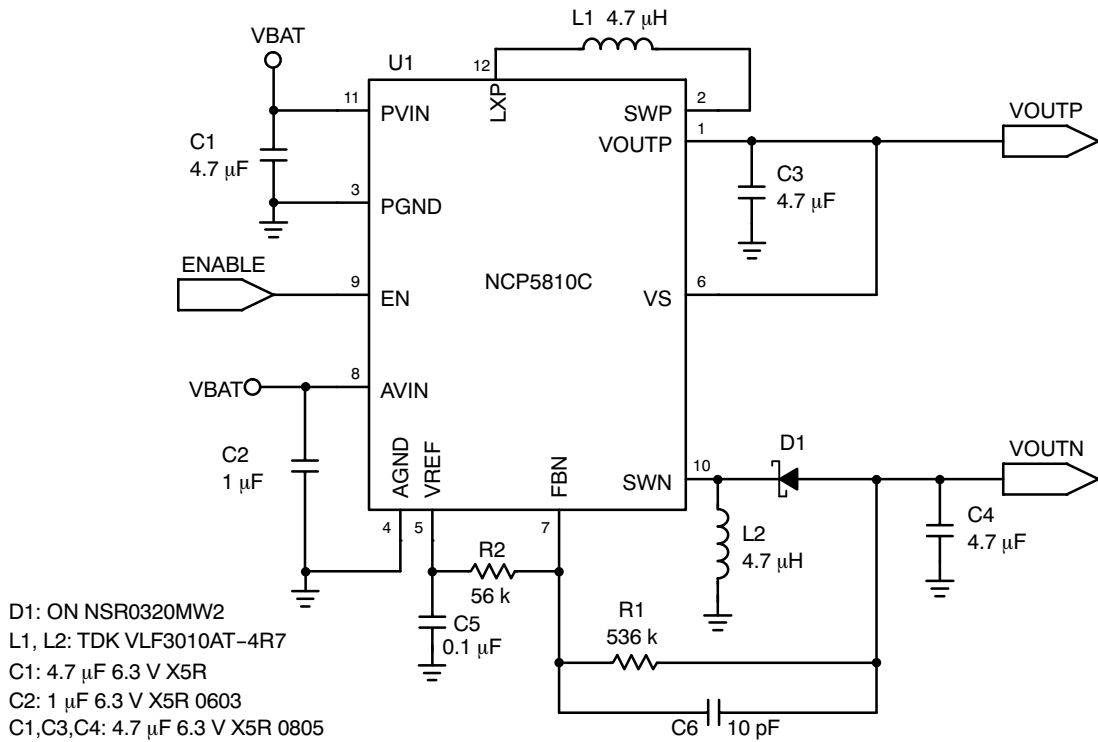

Figure 1. Typical Application Circuit
- Typical application circuit and components depicted Figure 1.